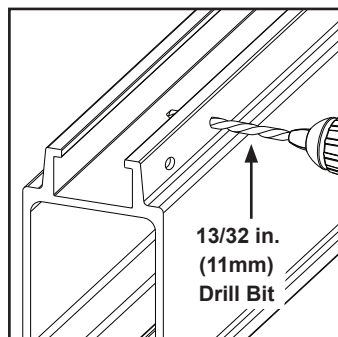

Figure 3-19
- Step 2. Drill two (2) holes using 13/32 in (11 mm) drill bit. Do not attempt to drill holes in-line. See Figure 3-19.